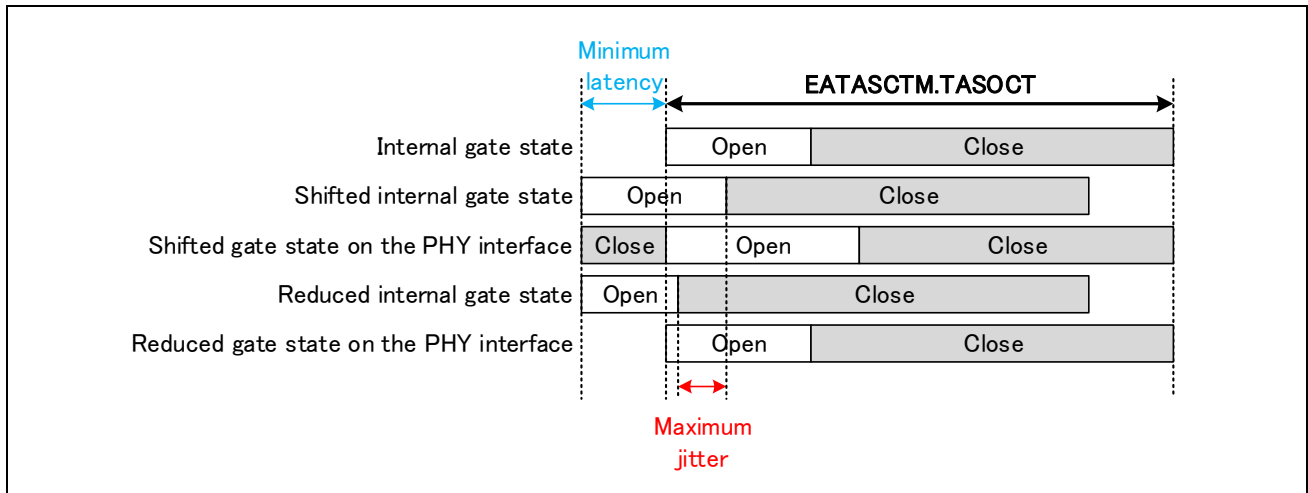

Fig 5.13: Maximum jitter calibration
(2) Jitter calibration
Because of the internal maximum jitter, with a non-calibrated schedule a frame would always finish transmitting late on the PHY interface [RMAC]. To correct this phenomenon, a TAS schedule opened gate should always be closed in advance compared to the expected close time of the maximum jitter (Fig 5.13). This maximum jitter should be calculated using equation (9). To calibrate the schedule, software should set the maximum jitter in **EATASHCC.TASJ** register.